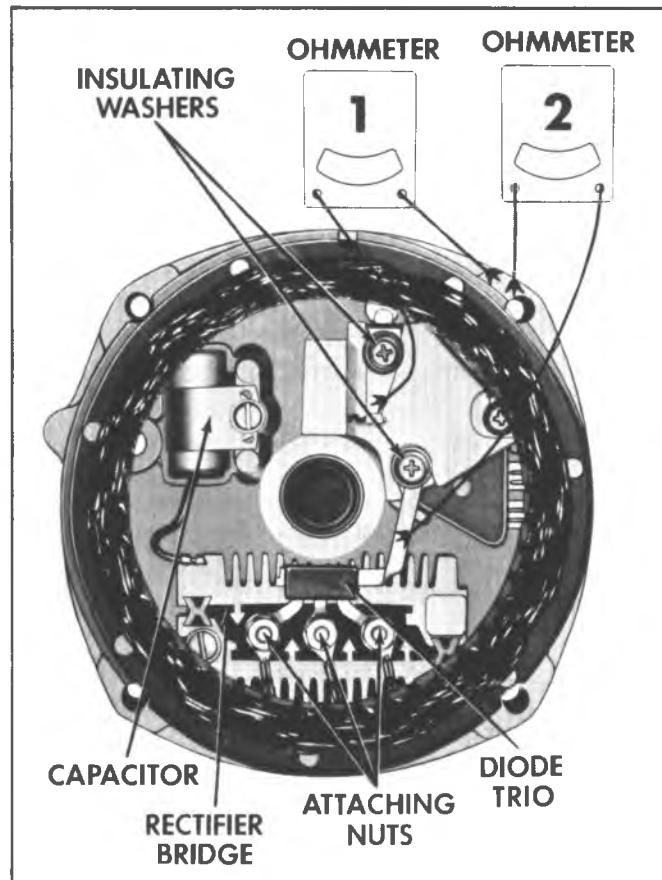

Fig. 7C-Brush Lead Clip Checks
- Remove screw attaching diode trio to brush holder assembly and remove diode trio from end frame (fig. 7C).
The diode trio may also be checked for a grounded brush lead while still installed in the end frame. Connect an ohmmeter from the brush lead clip to the end frame as shown in Step 2, Figure 7C, then reverse the lead connection. If both readings are zero, check for a grounded brush lead clip caused by omission of the insulating washer, or the insulating sleeve over the screw, or damaged insulating sleeve. Remove the screw to inspect the sleeve. If sleeve or screw are not grounded, replace regulator.
Voltage Reg./Brush Lead Clip Check (fig. 7C)
Connect an ohmmeter from the brush lead clip to the end frame as shown in Step 1, Figure 7C. Then reverse lead connections. If both readings are zero, either the brush lead clip is grounded or the regulator is defective.
Brush Holder and Regulator Replacement (fig. 7C)